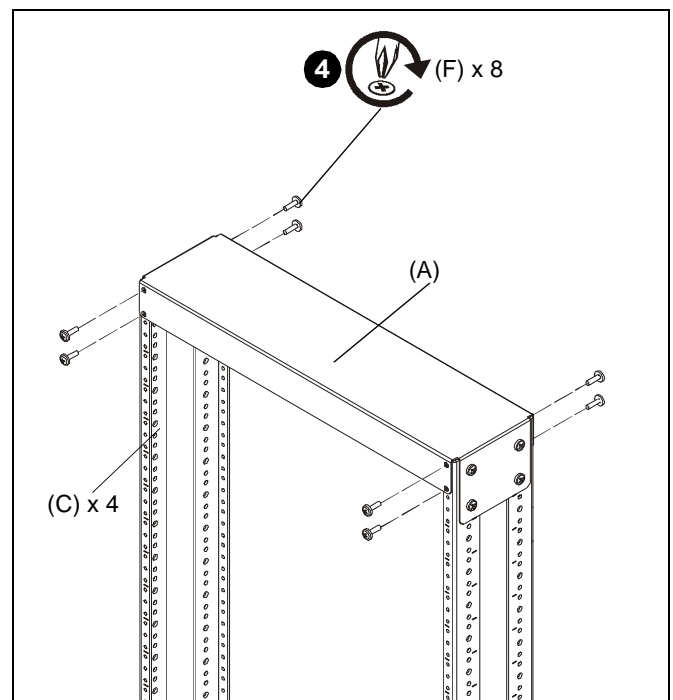

Figure 4
4. Use eight screws with washers (F) to fully secure four rack rails (C) to rack top (A). (See Figure 4)